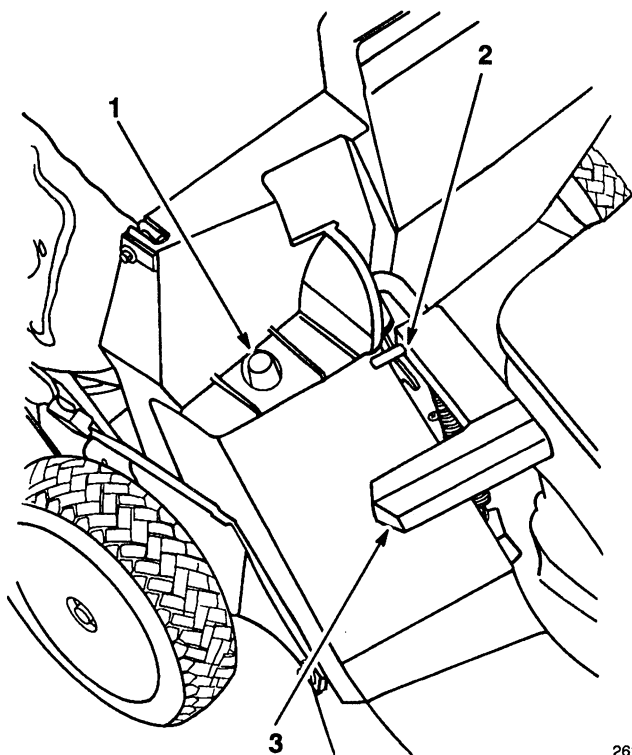

Figure 11
2. Ensure discharge door handle is fully forward and pin is engaged in catch (Fig. 11).
3. **INSTALLING BAG**—Slide hole in bag frame onto retaining post on discharge tunnel (Fig. 11). Set rear of bag frame onto lower handle.
5. EMPTYING BAG—Stop engine and wait for all moving parts to stop. Raise discharge door handle and move it forward to engage the locking pin with catch (Fig. 11). Grasp handles at front and rear of bag and lift bag off mower. Gradually tip bag forward to empty clippings.